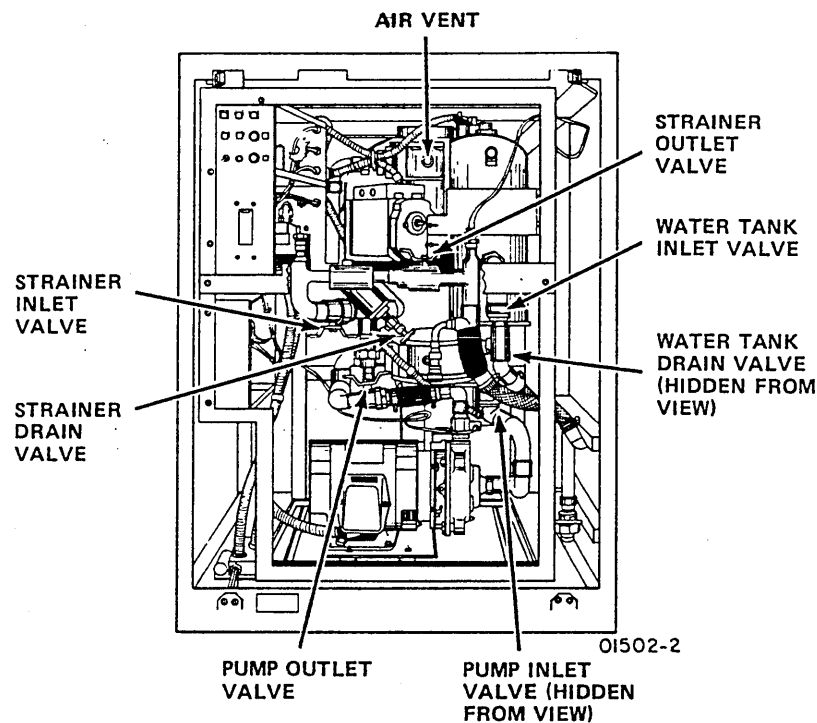

Figure 3-18. Valve Locations on 102-L/min (27-gal/min) Unit (Rear)
- ___ 2. Check valves on rear of water cooling unit (figure 3-18) for the following: